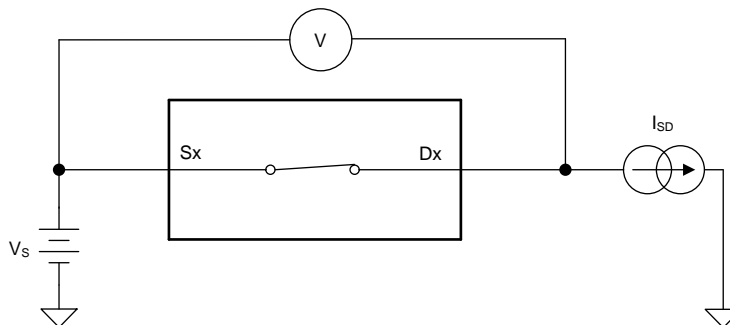

Figure 1. On-Resistance Measurement Setup
The on-resistance of a device is the ohmic resistance between the source (Sx) and drain (Dx) pins of the device. The on-resistance varies with input voltage and supply voltage. The symbol R_{ON} is used to denote on-resistance. The measurement setup used to measure R_{ON} is shown in Figure 1. Voltage (V) and current (I_{SD}) are measured using this setup, and R_{ON} is computed as shown below with $R_{ON} = V / I_{SD}$: